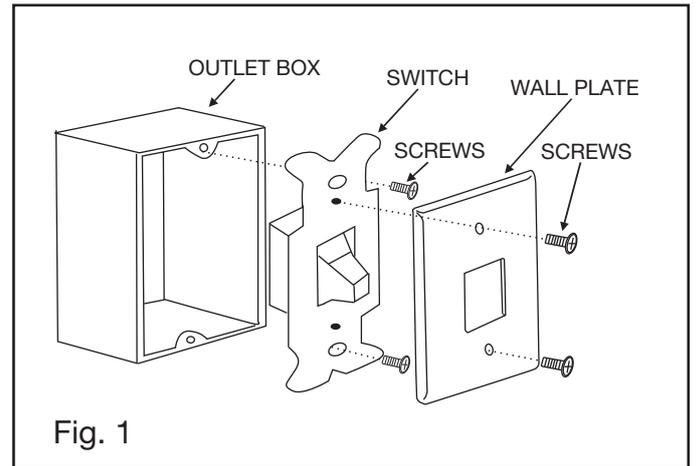
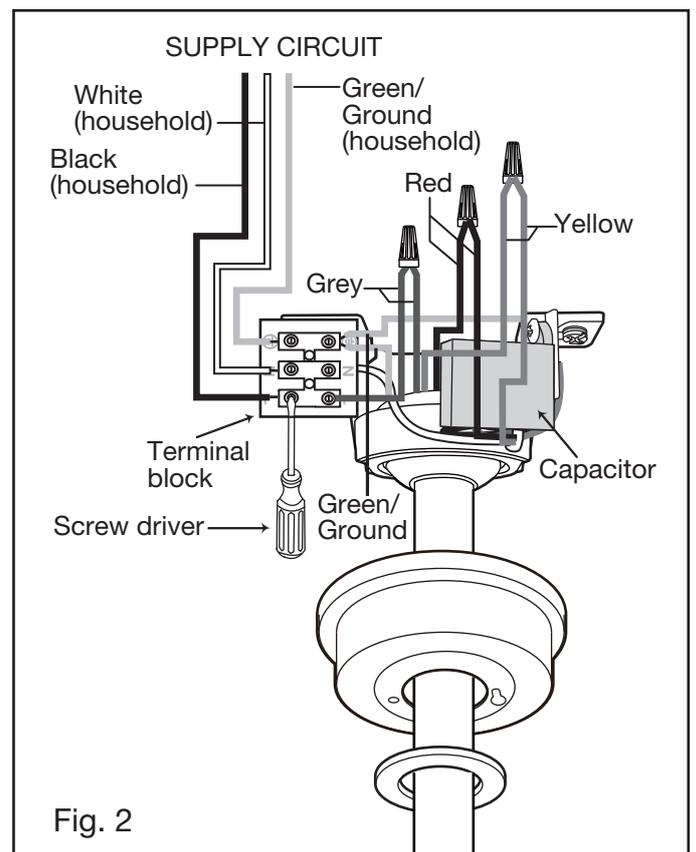

Fig. 1
Fig. 2
Step 1. Disconnect the power and remove the existing wall plate and switch from the wall junction box. (Fig. 1)
Step 3. Make wire connections and secure with wire nuts supplied. (Fig. 2)
Connecting the wires from the fan to the wires from the ceiling outlet box. (Fig. 2)
1. Place blade over blade arm and align blade with mounting holes in blade arms. Repeat this procedure without tightening the screw until all 3 screws and nuts have been started into the blade arm (Fig. 1).
3. Fasten blade assembly to motor with provided screws and lock lockwashers by uses Blade Arm Wrench. (Fig. 1) Repeat procedure for remaining blades. Make sure screws are **TIGHT!** Loose motor screws can contribute to unnecessary hum during operation. (Fig. 2)